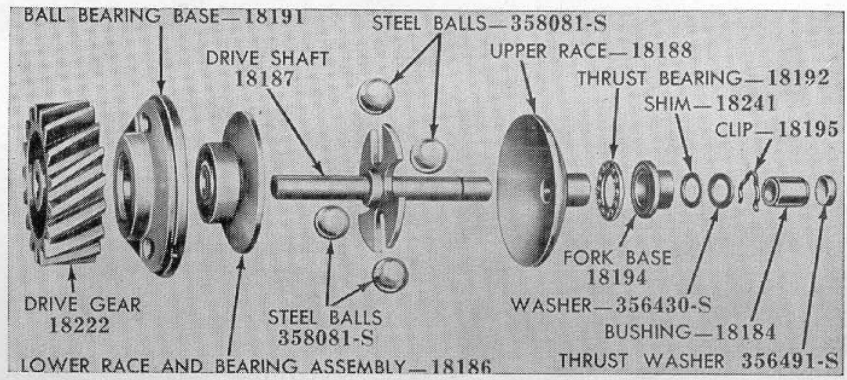

Fig. FO32—Exploded view of engine speed governor used on models 2N-8N-9N.
45. **OVERHAUL.** Remove governor from engine. Remove flyball unit, shaft and driven gear assembly Fig. FO32
Check governor lever shaft assembly and needle bearing Fig. FO34 for binding or excessive looseness and renew parts where required. If inner lever assembly is loose, install new parts or insert a  $\frac{1}{2} \times 2\frac{7}{8}$  inch shim as shown in Fig. FO35. Check governor shaft bushing for wear and if necessary renew bushing, using suitable removing and reinstalling tools as shown in Fig. FO38. CAUTION: Make sure that thrust washer shown in Fig FO32 is in place before installing bushing.